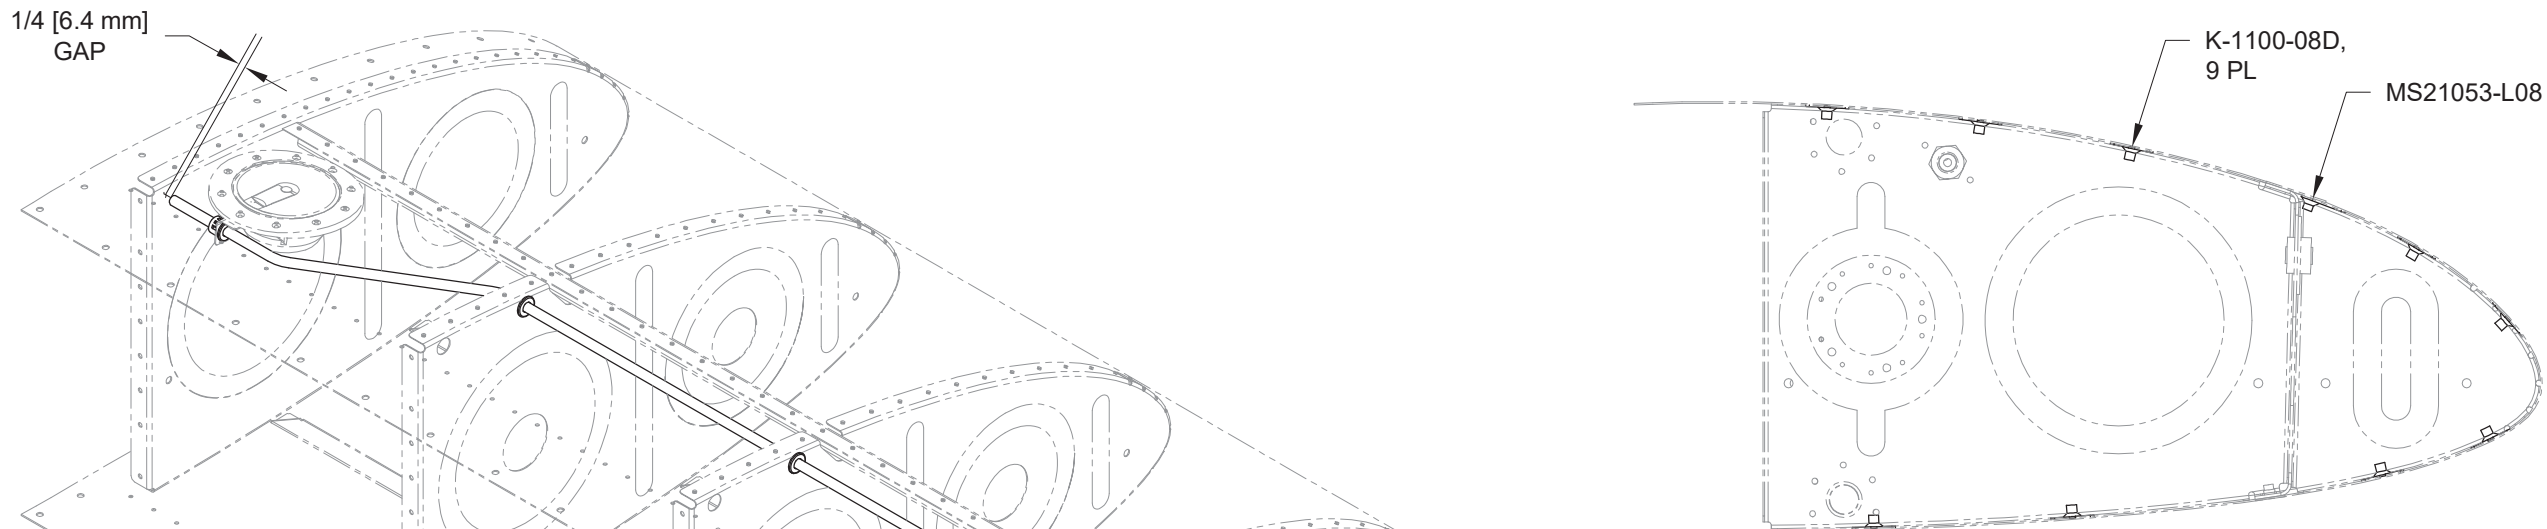

FIGURE 1: INBOARD END RIB NUTPLATE INSTALLATION
Step 4: Rivet the T-00003 Tank J-Stiffener to the T-00001-L Fuel Tank Skin as shown in Figure 1 & Figure 4.
Step 5: Rivet the T-00006-L Tank Attach Bracket Subassembly to the T-00001-L Fuel Tank Skin as shown in Figure 1 & Figure 4.
Step 1: Install Snap Bushings into the holes in the T-1004-L Tank Interior Ribs and T-00005B Vent Clip as shown in Figure 1.